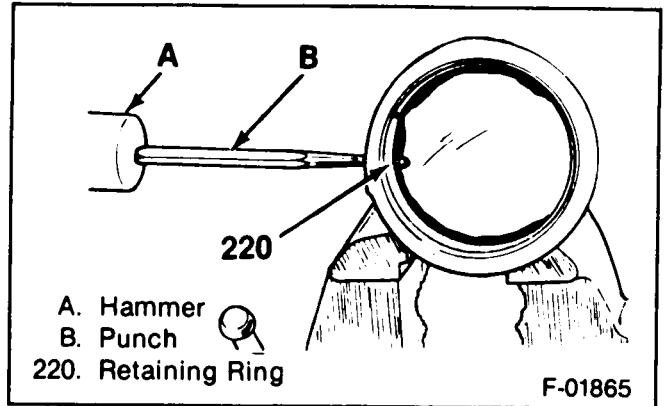

Figure 2—Unseating the Retaining Ring
↔ Remove or Disconnect (Figures 2 through 12)
1. Retaining Ring (220) (figure 2).